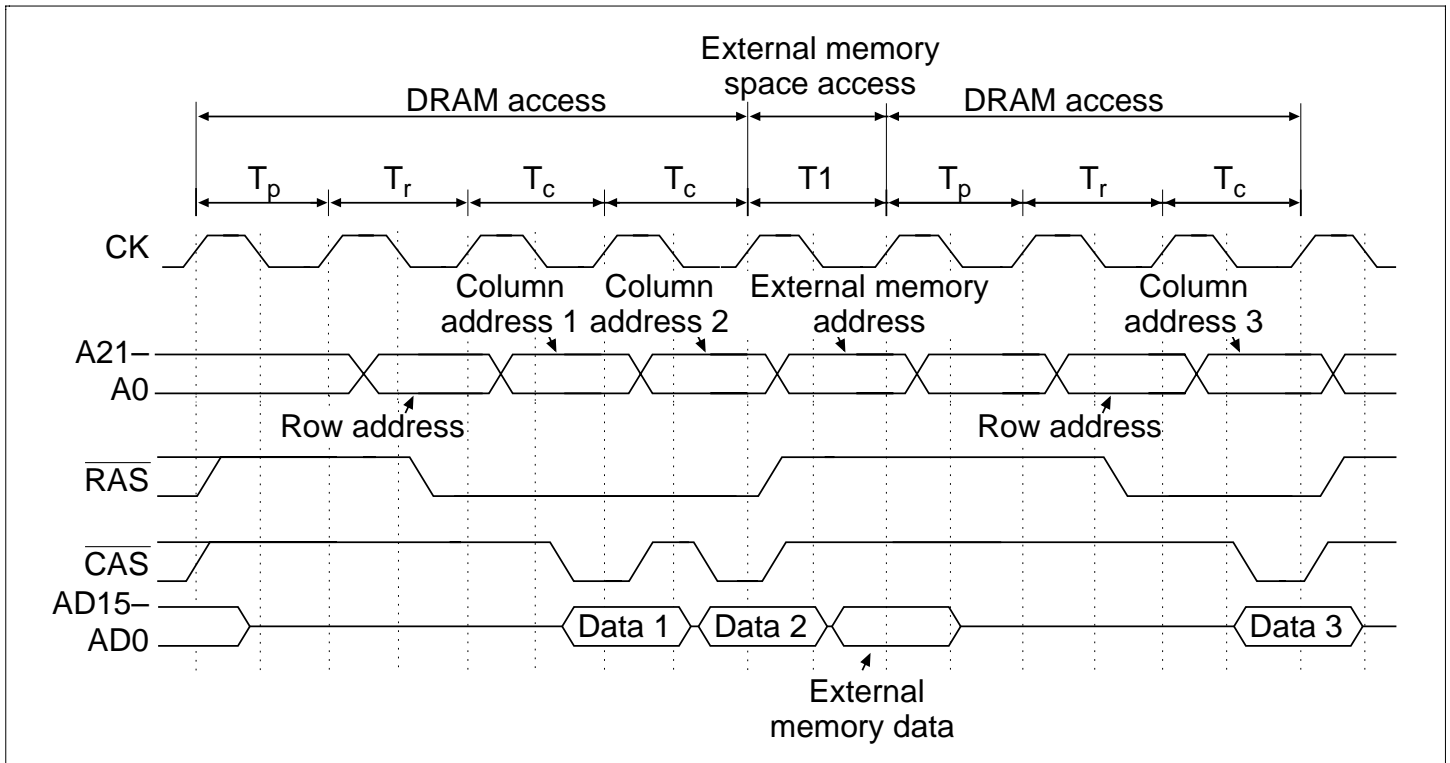

Figure 8.28 RAS Up Mode
- RAS up mode: When the RASD bit is cleared to 0, the $\overline{\text{RAS}}$ signal reverts to high whenever a DRAM access pauses for access to another space. Burst operation continues only while DRAM access is continuous. Figure 8.28 shows the timing when an external memory space access occurs during burst operation in RAS up mode.